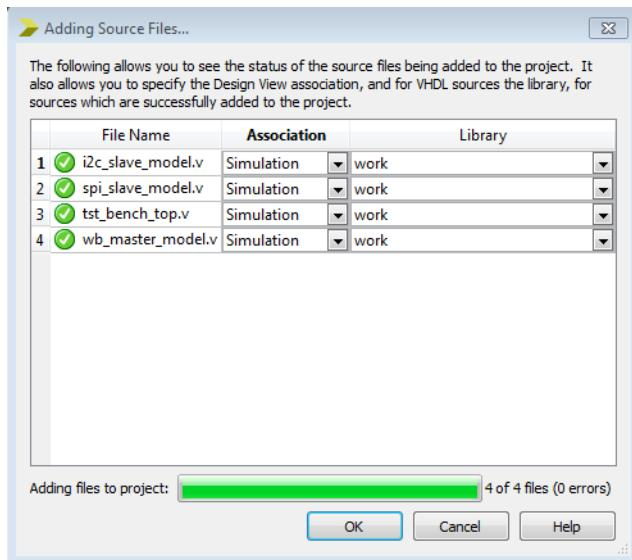

Figure 4-10 Simulation Association
3. Next, change the Association to Simulation, as seen in Figure 4-10. This is extremely important. If you fail to do this nothing will work and the tool will try to synthesize your test bench, giving you multiple error messages. Then click OK.